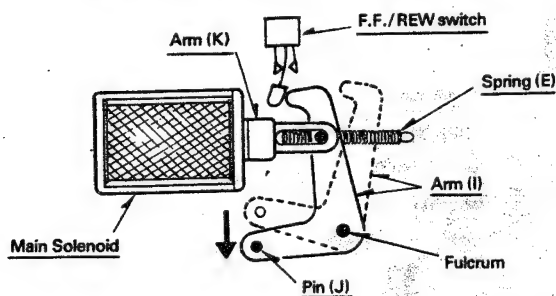

Fig. 14
1. With activation of the sensing mechanism, the main solenoid switch is turned on, so that Arm (I) is rotated counterclockwise and pushes Pin (J), which is attached to the head base. Simultaneously, Arm (I) depresses the FF/REW Switch which is designed to vary the motor speed. When Arm (I) is disengaged, the motor speed is set for fast forward and rewind operations, and when depressed, the speed is set for tape play. Arm (K), attached to the Main Solenoid, is provided with an oval hole for purpose of rotating, and is returned to its normal position by Spring (E) (Fig. 14).